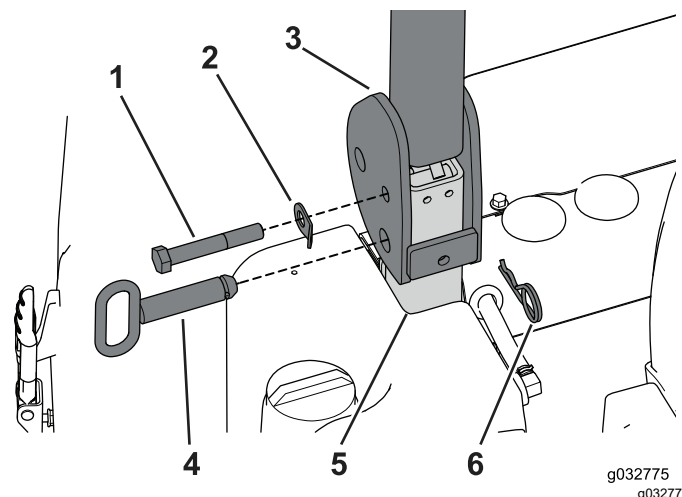

Figure 130
1. Align the holes in the roll bar with the holes in the lower-ROPS tube (Figure 130).
2. Assemble the pivot bolt and lanyard washer to the upper holes in the roll bar and lower-ROPS tube and tighten the bolt by hand (Figure 130).
4. Install the pivot-lock pins through the lower holes in the roll bar and lower-ROPS tube, and secure the lock pins with the hairpins (Figure 130).